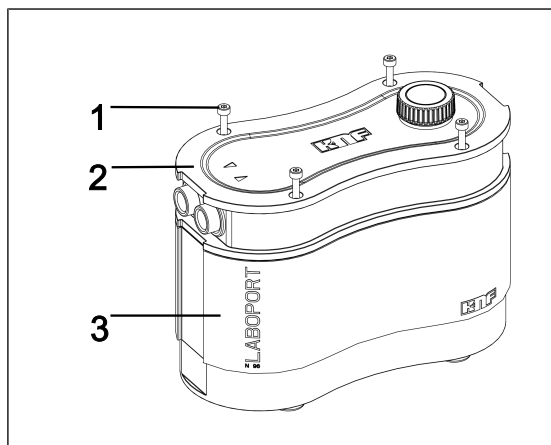
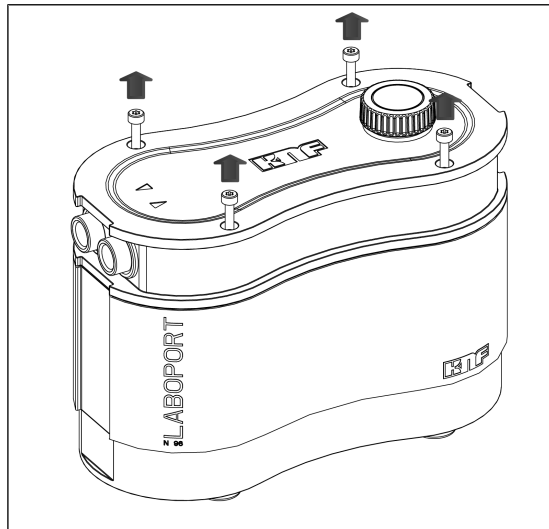
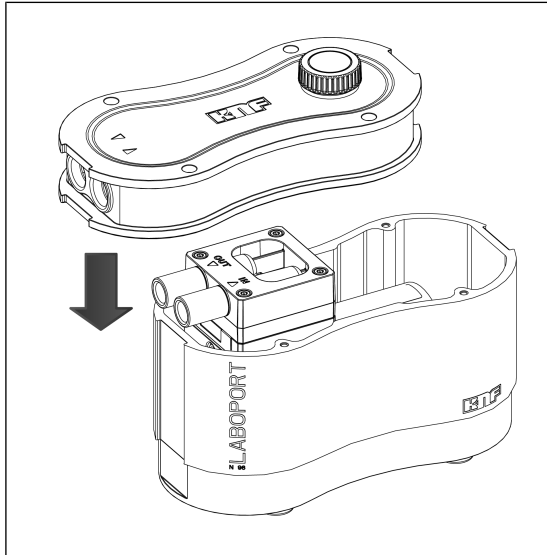

Fig. 6: Opening the housing
Fig.7: Loosening housing screws
Fig. 11: Mounting the housing cover
1. Loosen the four housing screws (Fig. 6/1) und entnehmen Sie diese aus dem Gehäusedeckel (2) (see Fig. 7). Store the screws for later reassembly.
1. Carefully place the housing cover (Fig. 6/2) on the pump housing (3) (see Fig. 11).
- i** In doing so, make certain that the cables within the pump housing (3) and the circuit board are not damaged.